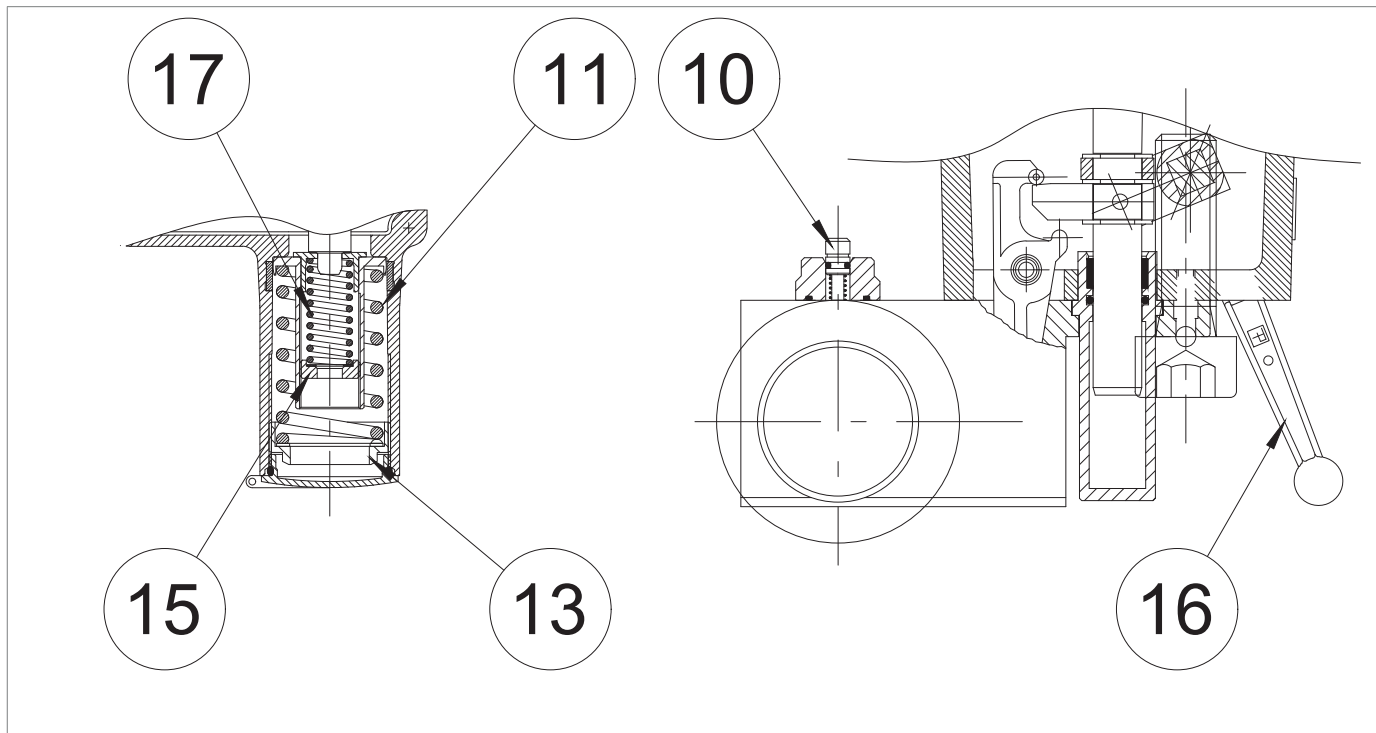

Fig. 8.34. Calibration of pressure switches models 102M/102MH ÷ 105M/105MH
2	<p>Check that the slam-shut valve (9) is in the closed position.</p> <div style="border: 1px solid black; padding: 5px;"> <p> NOTICE!  If the slam-shut valve (9) is in the open position, close it using the manual button (Fig. 8.34, ref.10).</p> </div>